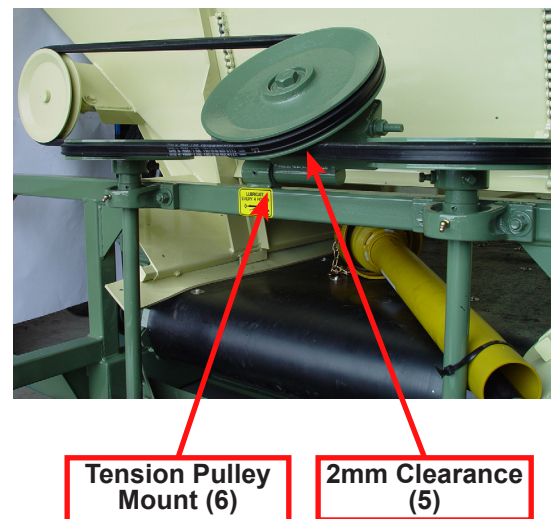

Fig 7
For the correct V-Belt tension see figure (7), once tension has been taken up there should be approximately 40mm from the top of the V-Belt to the top of the side shaft as shown. (Fig 7). To adjust tension loosen off the tension pulley shaft nut (Fig 3) then tension the adjuster (Fig 8).